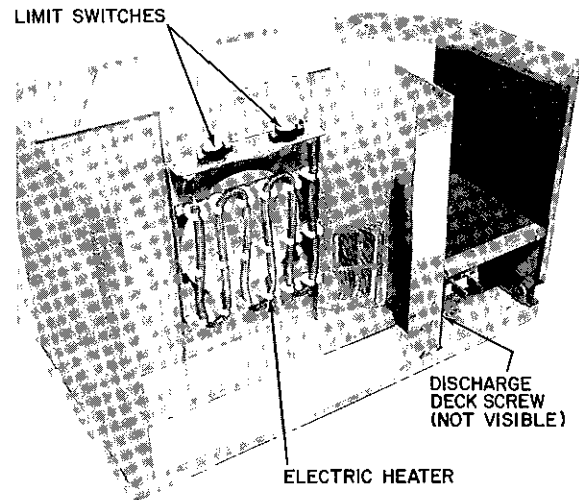

Fig. 35 — Electric Heater Assembly
- g Remove one screw (Fig 35) securing discharge deck to scroll plate
- 45 **Electric Heater Assembly** — See Electric Heater in Fig 35. The electric heater is found only in the Models 51CV and 51GY